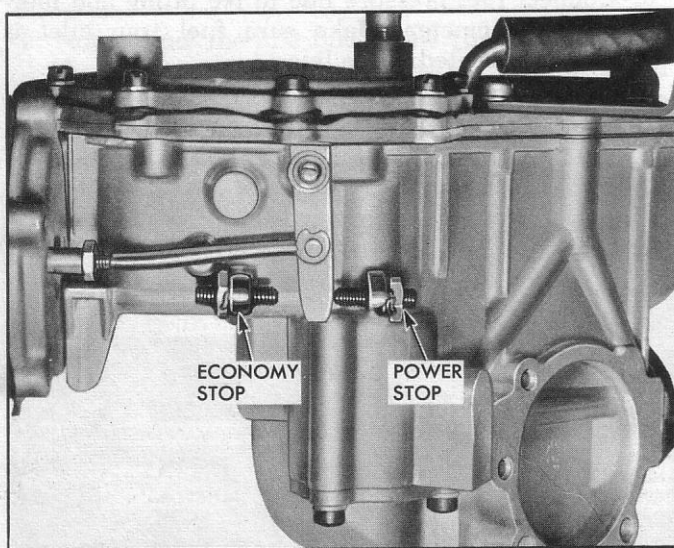

Fig. 26—Ratio Lever Stop Locations
1. Engine should be at operating temperature. Check to see that unit is operating on the economy stop (fig. 26).